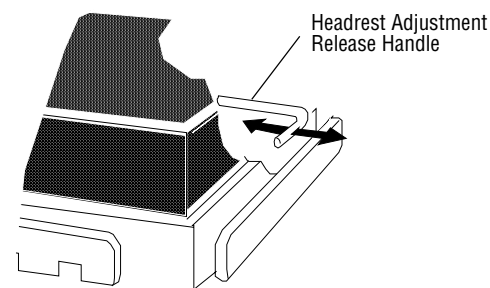

Figure 3-10. Headrest Positioning
1. Locate spring-loaded release handle under right side of headrest (Figure 3-10), and pull to release.